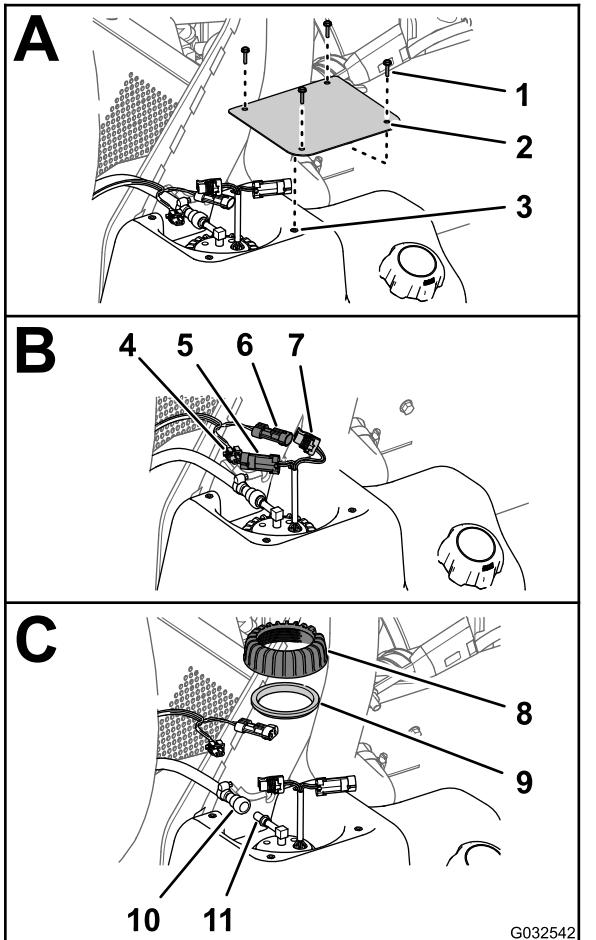

Figure 79
2. At the fuel tank, remove the 4 screws (#10 x 3/4 inch) that secure the cover to the top of the fuel tank, and remove the cover (Figure 79).
3. Disconnect the 2-socket connector of the machine-wiring harness from the 2-pin connector of the fuel pump/sending unit; disconnect the 2-pin connector of the machine-wiring harness from the 2-socket connector of the fuel pump/sending unit (Figure 79).
4. Slide the locking sleeve of the fuel-hose coupling away from the fitting of the fuel pump/sending unit and remove the coupling and hose from the fitting (Figure 79).
5. Rotate the nut for the fuel pump/sending unit counterclockwise and remove the nut and seal (Figure 79)